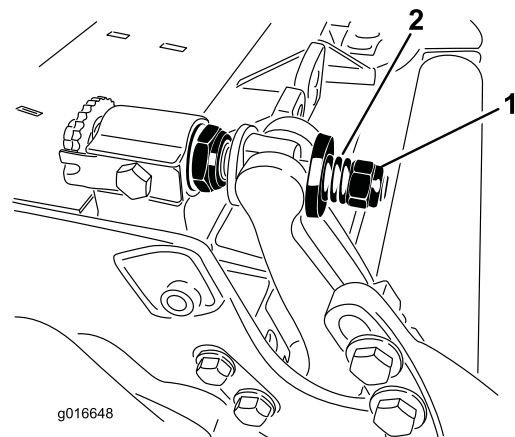

Figure 33
5. Tighten spring tension nut until spring is collapsed, then back off 1/2 turn (Figure 33).